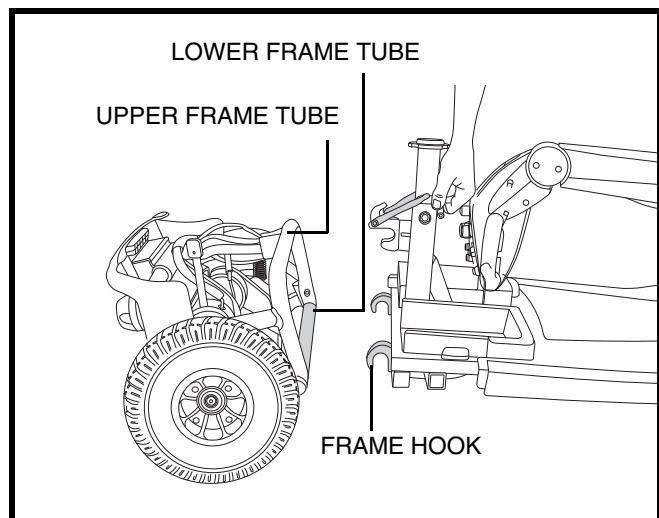

Figure 24. Frame Separation
4. Slowly separate the two sections. See figure 24.
1. Position the front and rear sections of your scooter as shown in figure 24.
2. Use the frame release lever to lift the front section as you align the frame hooks of the front section with the lower frame tube of the rear section. See figure 24.